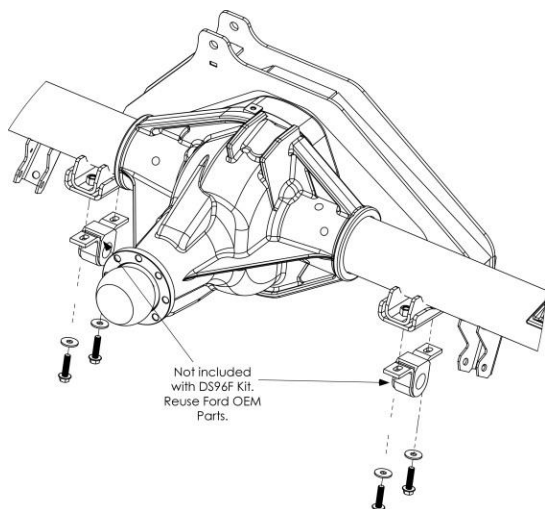

Figure 21. Track Rod Mount Bridge installation.
- Loosely reattach the swaybar and sway bar bushings to the bottom of the Track Rod Mount Bridge and axle using the (4) M10-1.5 x 40mm Hex Flange Bolts and (4) M10 Fender Washers. Reuse the OEM Lock Nuts. See Figure 21.